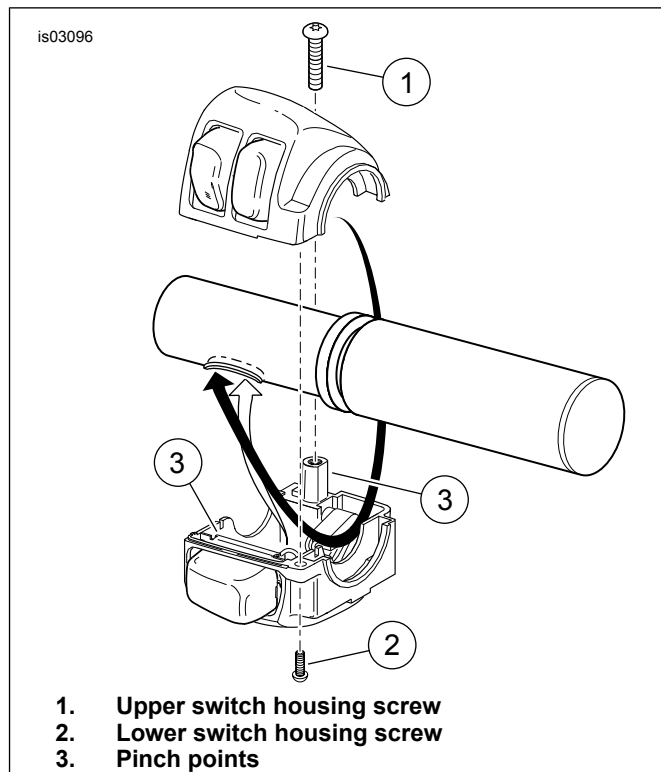

Figure 5. Switch Housing Wire Routing (Right Side Housing Shown)
- See Figure 5. Route the switch wire harness (and turn signal harness, if routed through the switch housing) through the switch housing. Gently feed the harnesses into the oblong switch wire hole near the right side end of the handlebar toward the center of the handlebar. Repeat for left side.
7. Gently feed the twist grip sensor harness into the right side handlebar end. See Figure 5. Route the right side switch wire bundle through the switch housing as shown. Gently feed the harness into the right side switch wire hole. Pull the bundles down through the new handlebar and toward the center of the bar, while fitting the index tabs on the twist grip sensor into the slots on the end of the handlebar. One index tab and slot are smaller than the other for ease of assembly.